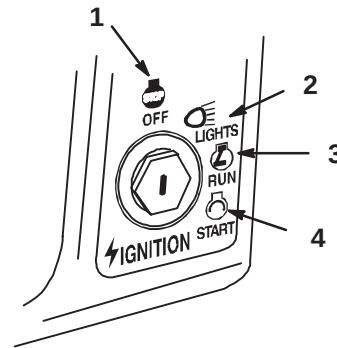

Figure 5
6. Turn the ignition key and hold it in the **start** position (Fig. 5). When the engine starts, release the key.
4. Turn the ignition key to **off** (Fig. 5).